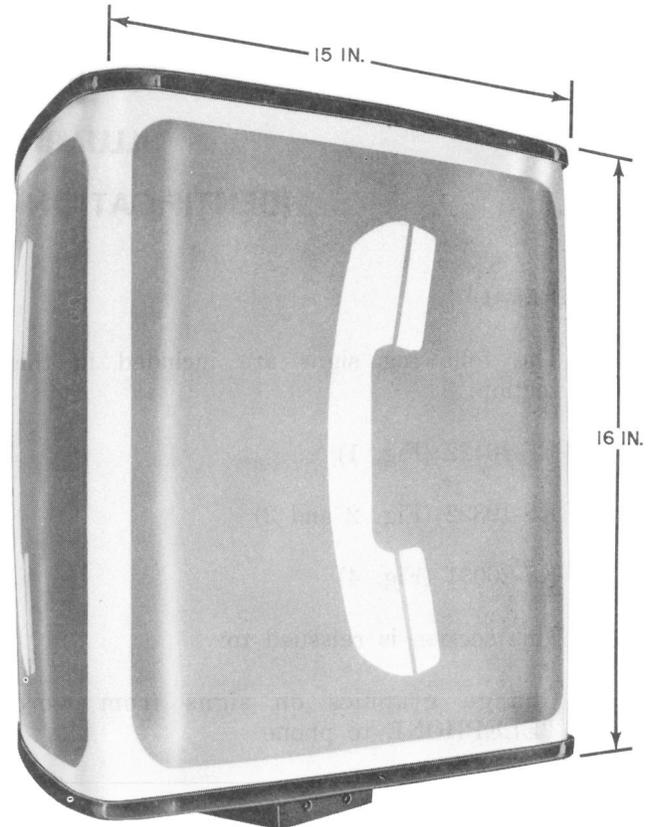

Fig. 4—KS-20031 Illuminated Sign
- KS-20031 (Fig. 4)
2.13 The KS-20031 sign (Fig. 4) is intended for use indoors or outdoors over a KS-19426 walk-up, drive-up mounting.